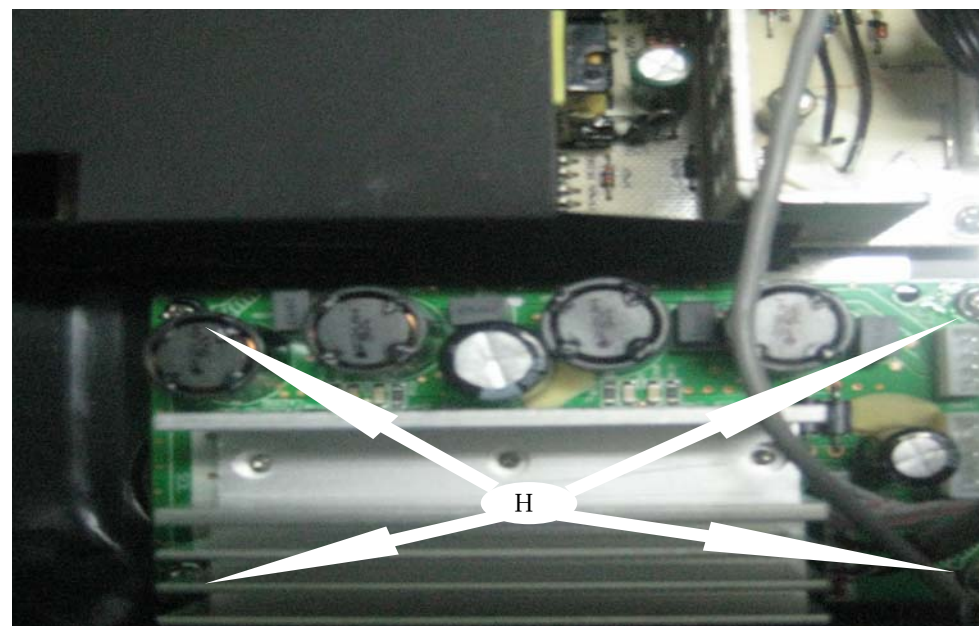

Figure 12
- 1) Loosen 4 screws "H" (S1 x 4) to detach AMP Board as shown in figure 12